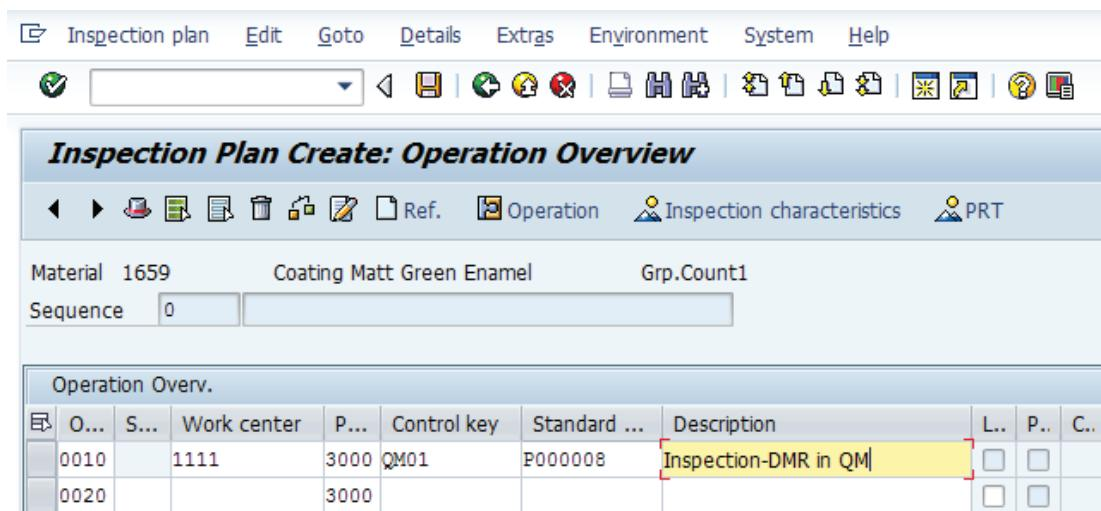
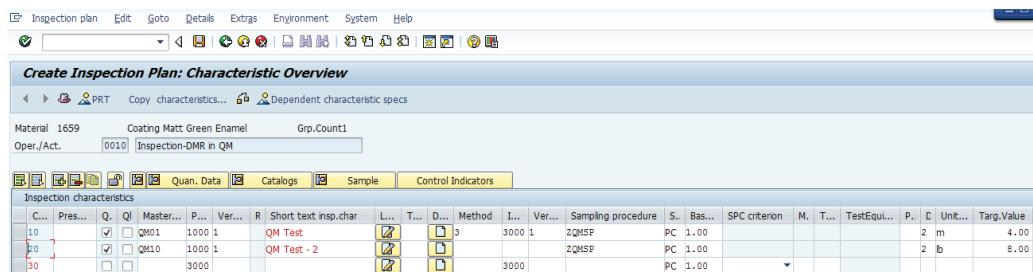

Figure 34: Overview Screen of Inspection Plan
Figure 35: Two MICs, QM01 and QM10, with Sampling Procedure ZQMSP
Next, click the Operation icon in Figure 34. Assign the Work center 1111 and Control key as 'QM01' on which the inspection is going to be carried out. Select the line item 0010 and click the Inspection characteristics icon to bring up the screen in Figure 35.